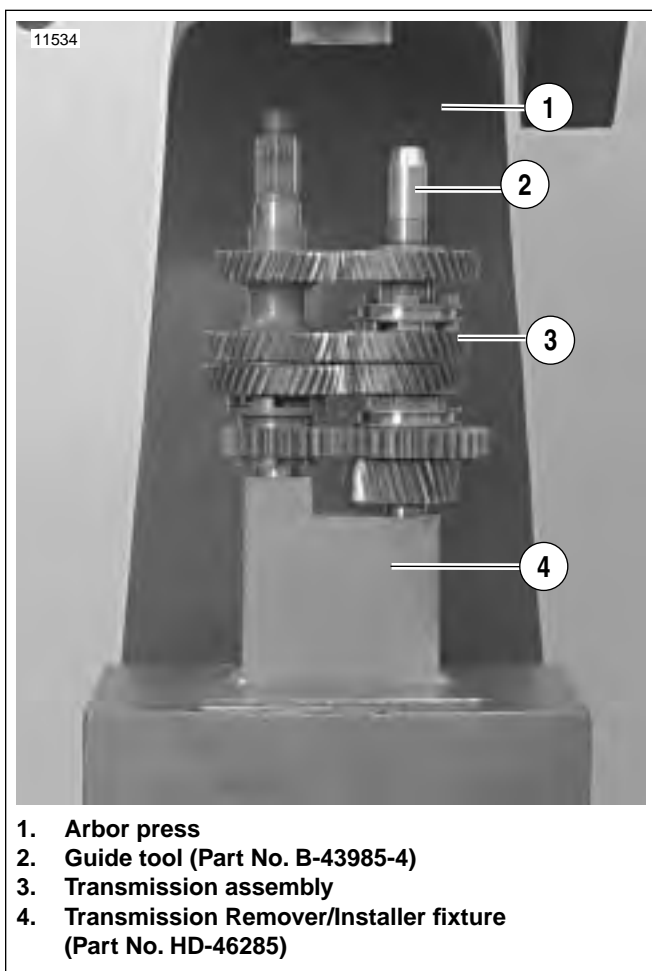

Figure 6-86. Transmission Assembly in Fixture (Typical)
1. See Figure 6-86. Place transmission assembly onto TRANSMISSION REMOVER/INSTALLER FIXTURE (Part No. B-46285) on arbor press.